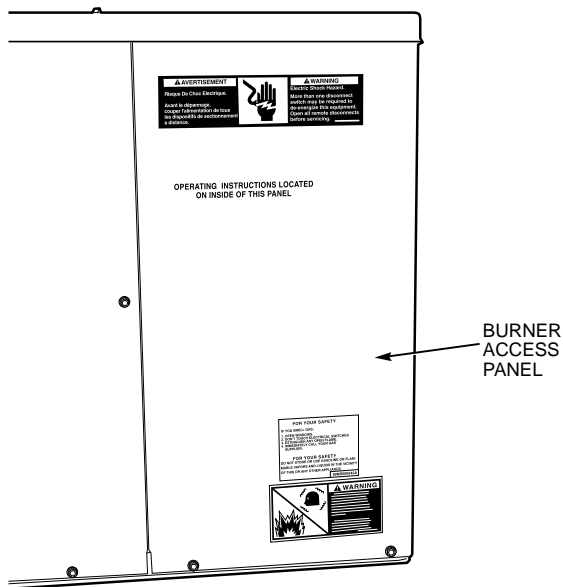

Fig. 35 — Burner Access Panel
1. Remove burner access panel. (See Fig. 35.)
3. Remove burner access panel. (See Fig. 35.)